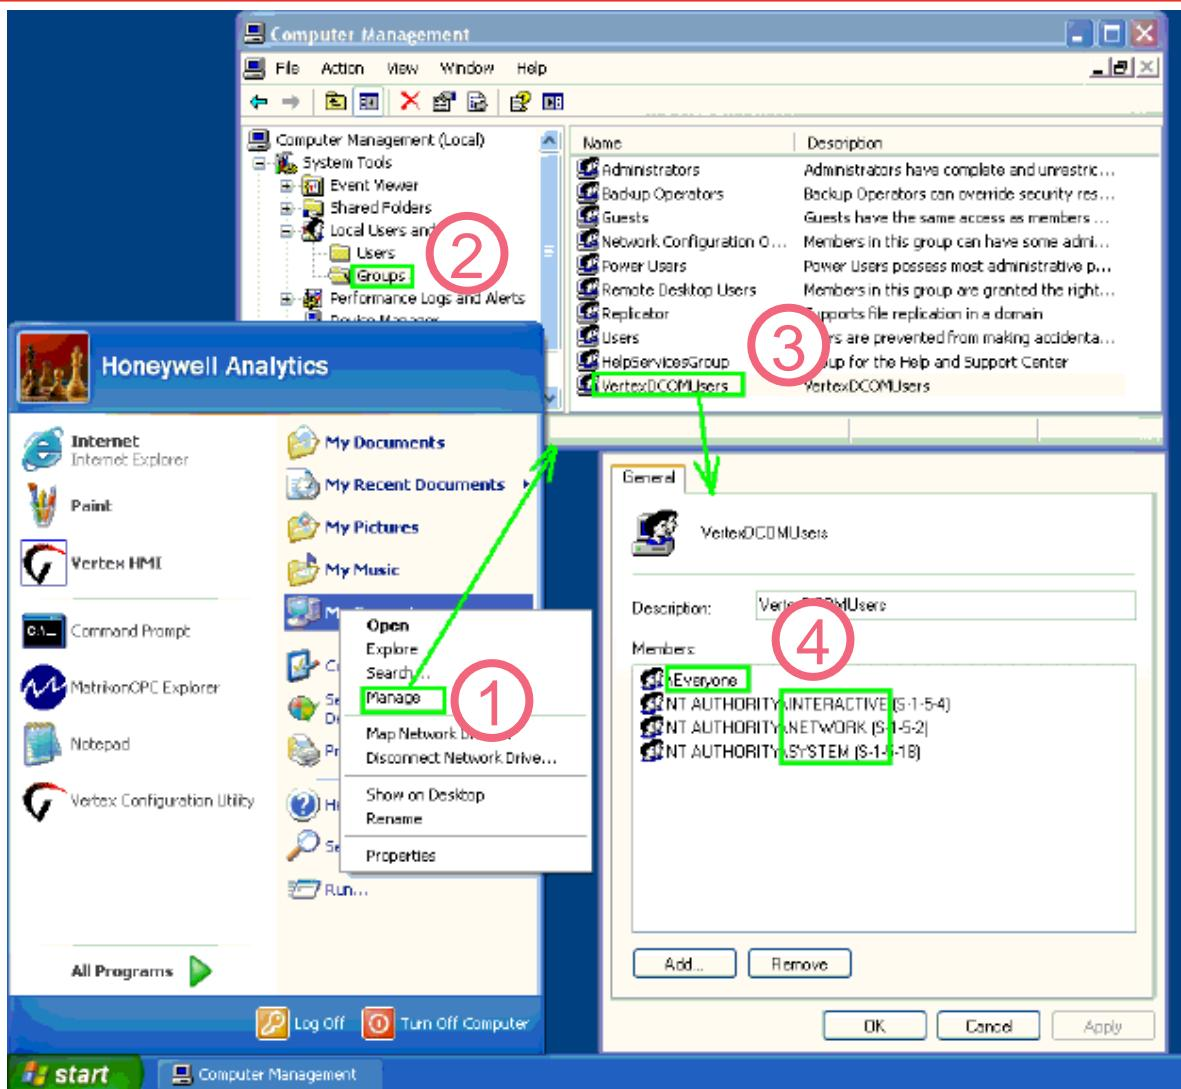

Figure A-13. Create Group "VertexDCOMUsers"
5. Add members “Everyone”, “Interactive”, “Network” and “System” as shown in Figure A-13.